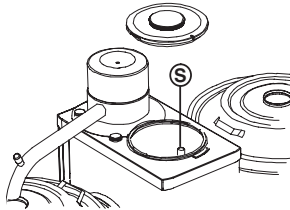

Fig. 22 Overflow pipe hot water system
- Discharge the last bit of water through the overflow pipe. For this, pull the overflow pipe (S.), that is found in the hot water boiler, up by the short hose (fig.22).
- Discharge the last bit of water through the overflow pipe. For this pull up the overflow pipe (S., fig.22).